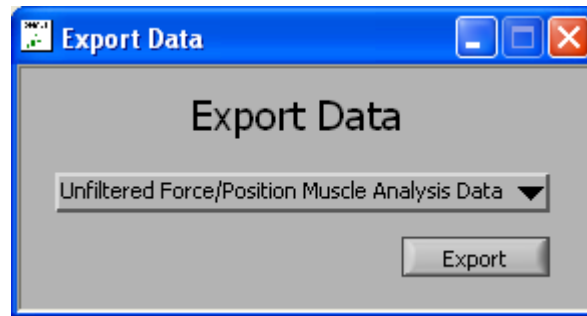

Figure 4: Export Data Window
- 13) Clicking the Export Data button on the Main Window to open the Export Data window, see Figure 4.